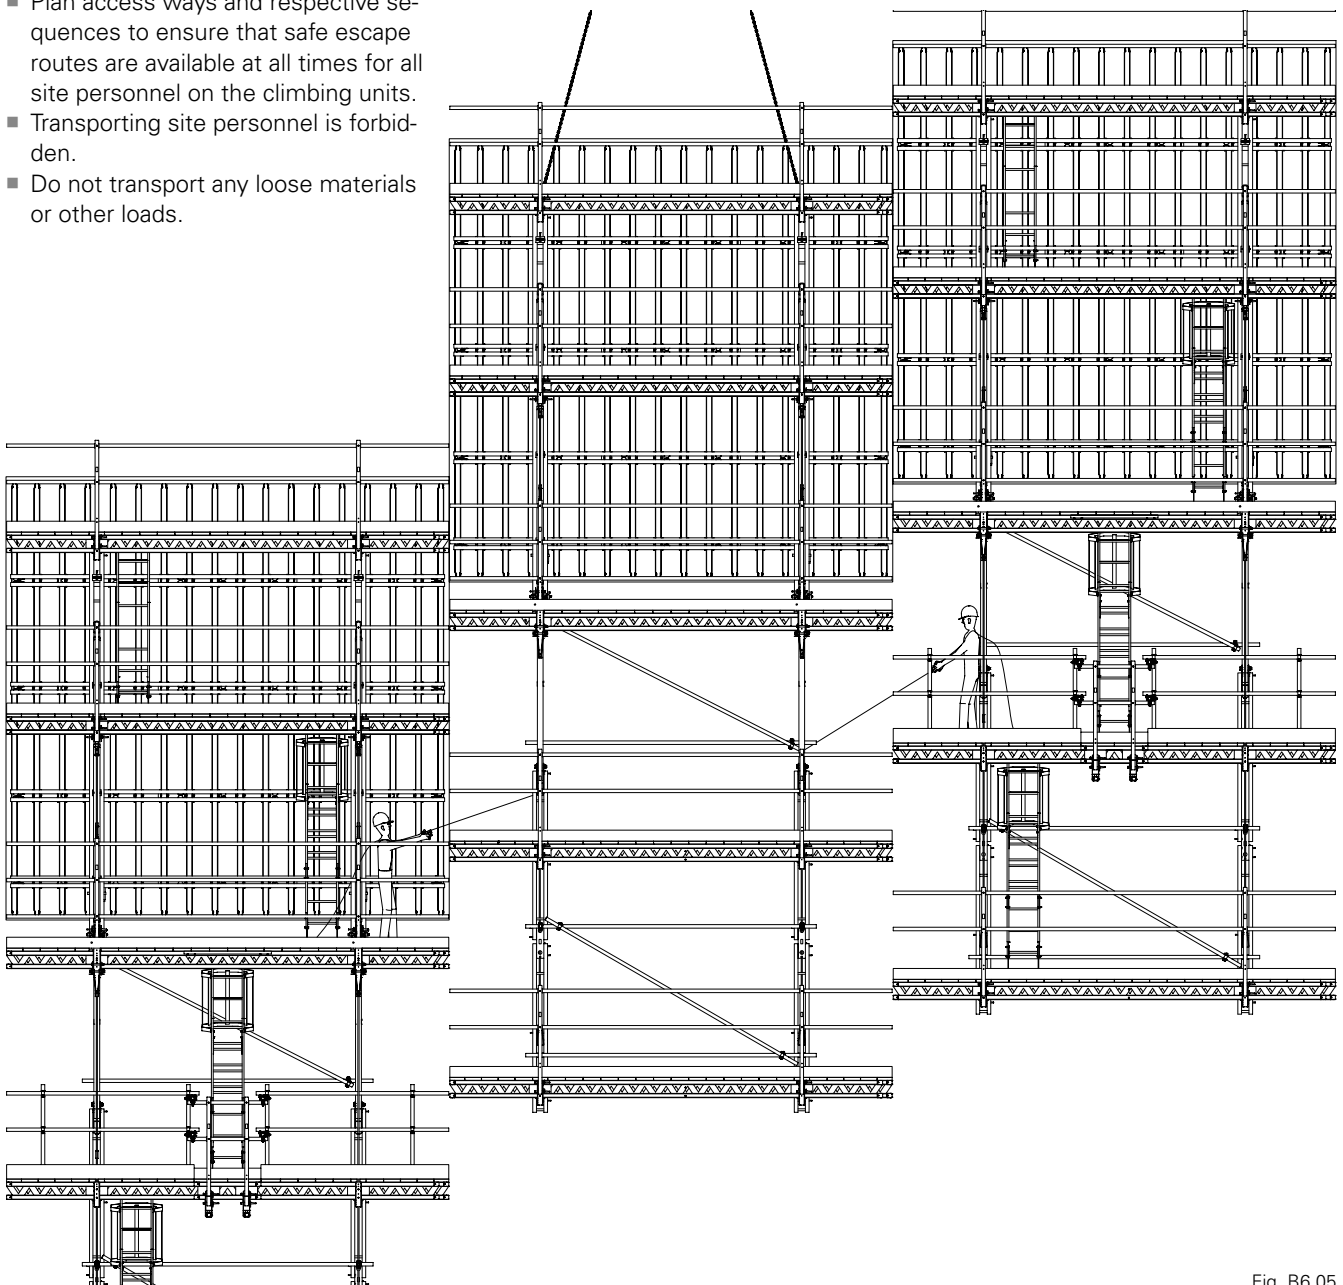

Fig. B6.05
- Use a guide rope to ensure that the moving procedure is fully under control. (Fig. B6.05)